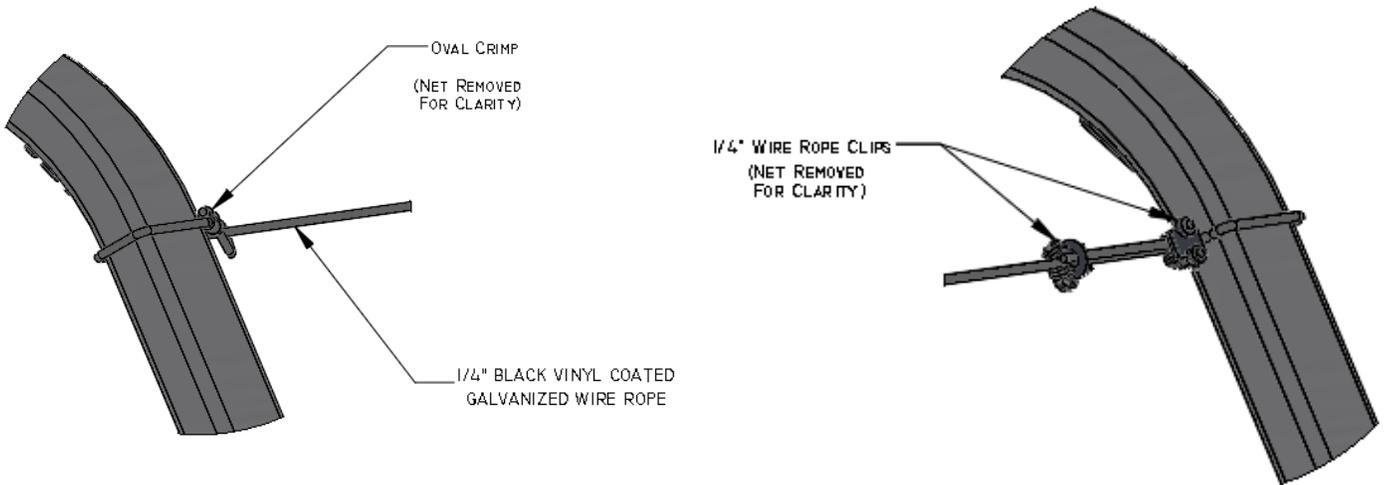

Figure 7
7. Install the net support cable from the inside of the goal. Route the strap through the net clip as shown below (Figure 7) and loop the strap around the goal frame through the provided pre-looped end, stretch the net support cable to the other side of the goal, loop the support cable around the frame and secure the cable to itself using the provided 3/16" cable clamps.